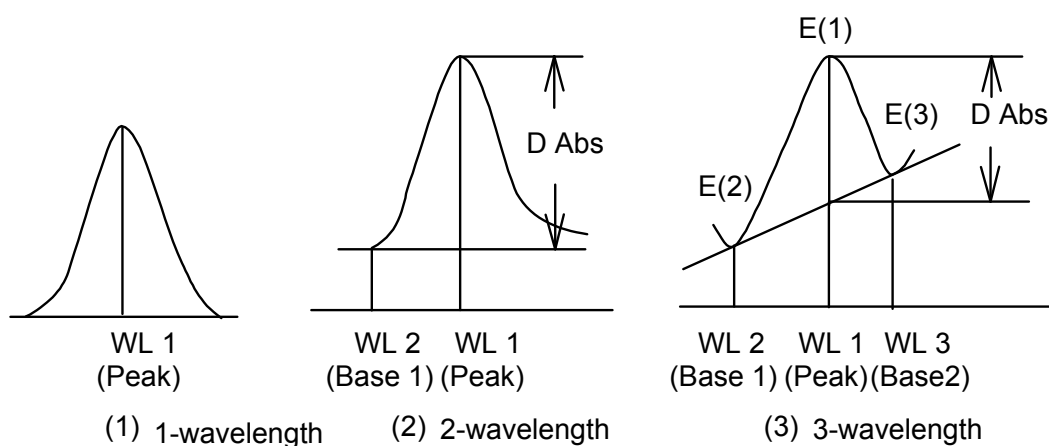

Figure 3.1 Quantitative analysis methods
- 1) 1-wavelength quantitative analysis. Fig. 3.1 (1).
- 2) 2-wavelength quantitative analysis. Fig. 3.1 (2).
- 3) 3-wavelength quantitative analysis. Fig. 3.1 (3).